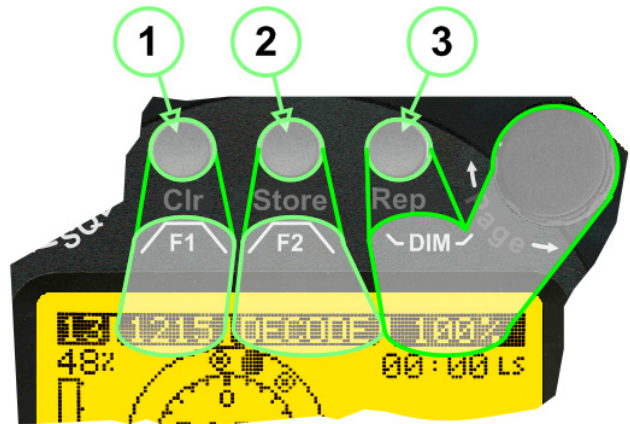

Fig 3) Push buttons / short-time keypress
- (1) **>LC Graphic Display<** (128 x 64 dots dot-matrix display, dark blue on yellow-green background) showing all relevant operational information depending upon the selected page.
- (2) **>ON/OFF<** Push-button to switch on / off the system.
- (3) **>Menu<** options for rotary and push buttons: If a field with dark background and bright text is shown below a button or switch, the function described in this field may be selected through the operational element above or below this menu field. In case of the Page Menu, the active page is high-lighted with dark background, while the inactive page is in black letters.
- (4) **>Volume<** Rotary Switch, used, depending on the active page, to adjust the volume of the audio output or to select frequency values (MHz steps).
- (5) **>SQL<** Rotary Switch, used depending on the active page, to adjust the squelch function or to select specific functions on a page depending upon the interactive menu on the display.
- (6) **Push-buttons** (see "Fig 3)" in Chapter 2.1.1)
- (7) **>Page<** Rotary Switch, selects pages "DF" and "FRQ":